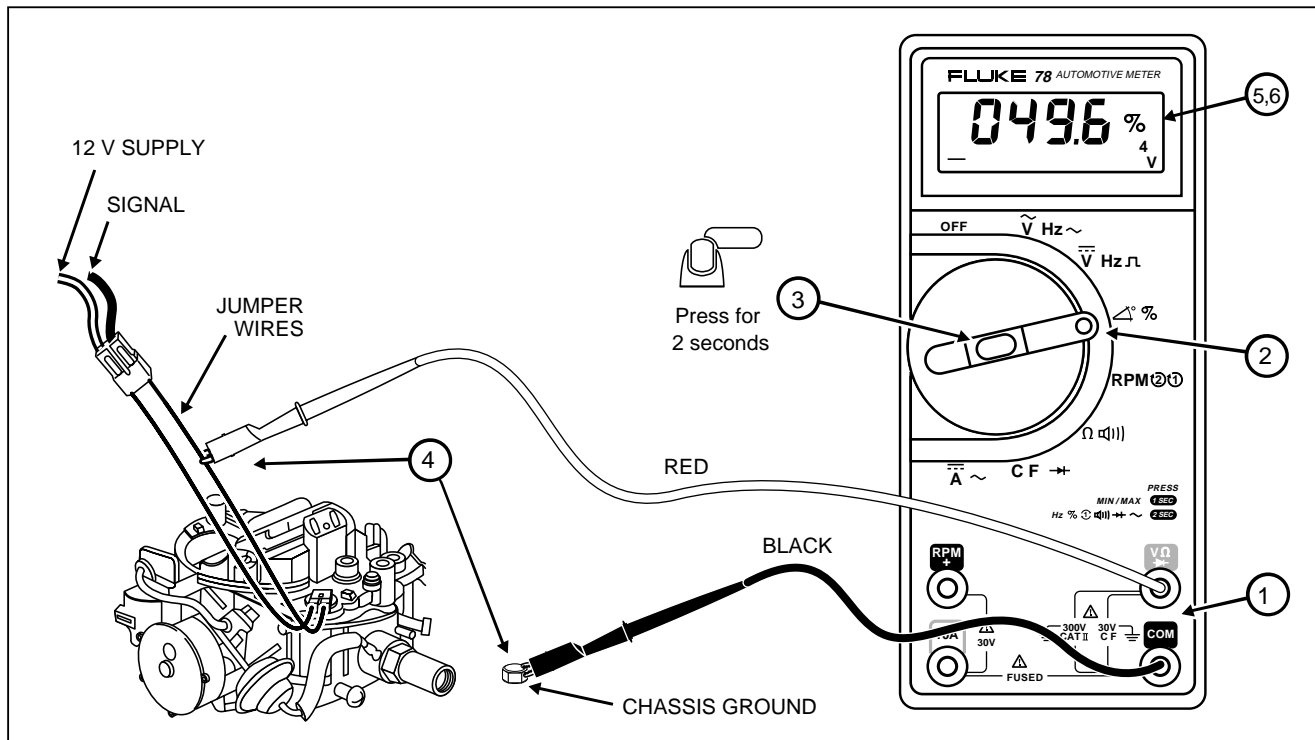

Figure 14. Measuring Duty Cycle on a Feedback Carburetor
1. Insert the test leads in the jacks as shown in Figure 14.